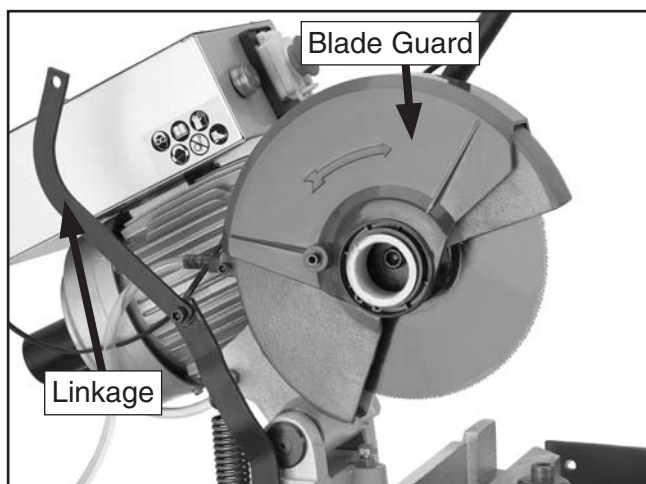

Figure 42. Exposing blade.
3. Rotate the blade guard and linkage out of the way, as shown in **Figure 42**.
4. Remove the arbor cap screw. It has left-hand threads and loosens when turned clockwise (see **Figure 42**).